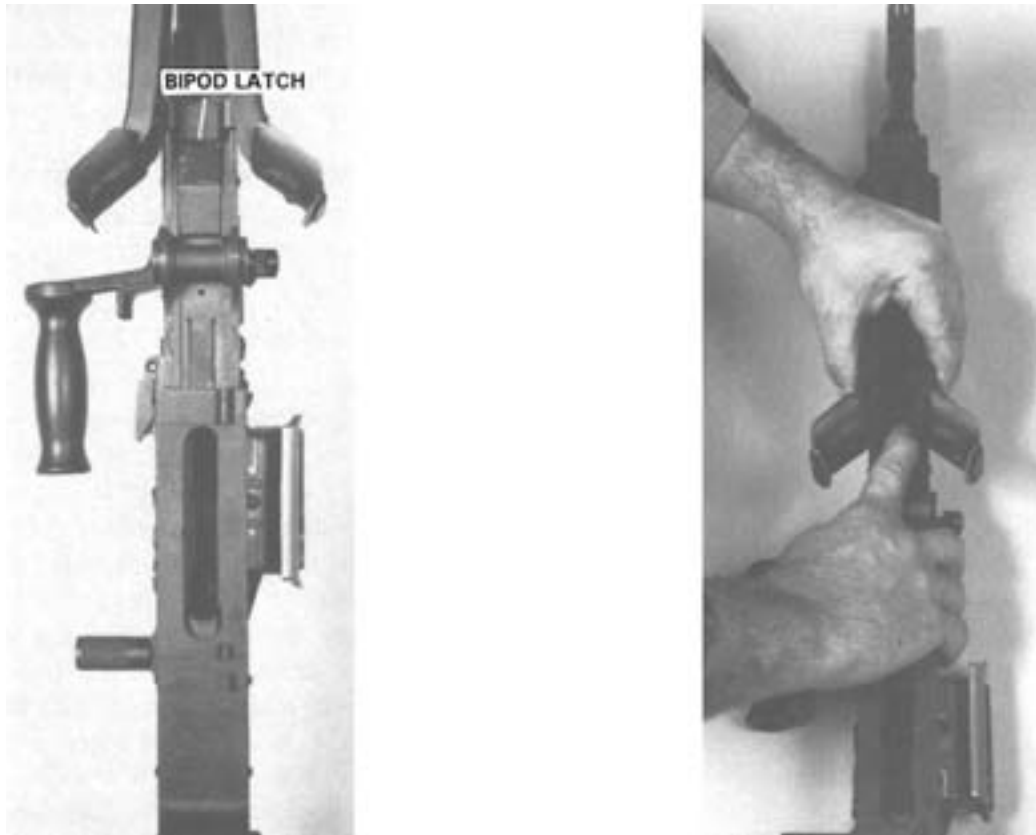

Figure 3-36. Lowering the Bipod.
a. Lowering. To lower the bipod legs, push in on the bipod latch and rotate the legs down and forward (see figure 3-36). Release the legs and they will automatically spring outward into their open and locked position.